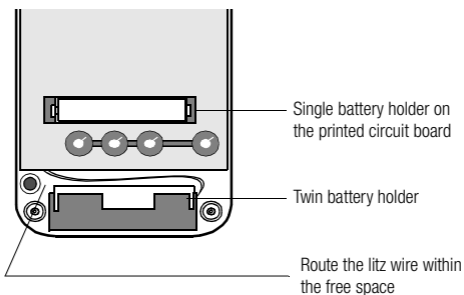

Figure 26 Battery Holders
- Re-insert the twin battery holder into the compartment of the upper housing part in accordance with Figure 26, and make sure that the connecting litz wires are not resting on the housing edge or on the screw with the tapped hole.